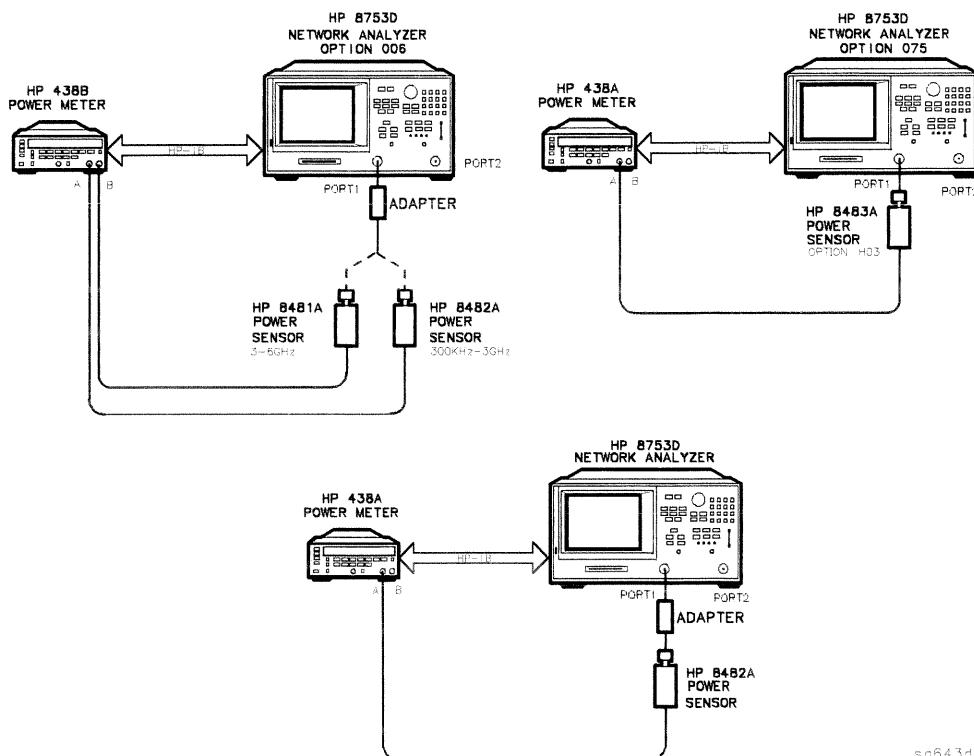

Figure 3-6. Connections for Sampler Correction Routine
17. When the analyzer displays CONNECT <3 GHz SENSOR A TO PORT 1, make the connections as shown in Figure 3-6.